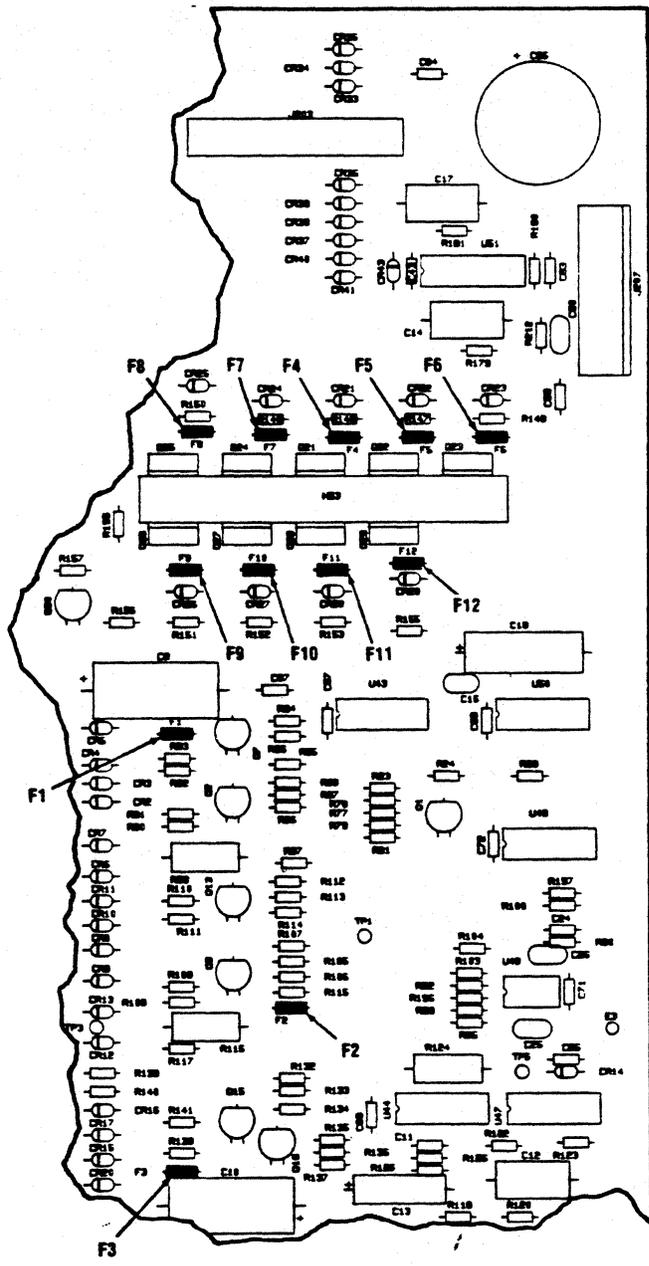

Figure 5-19. REMOVAL/REPLACEMENT PICO FUSE
The pico fuses, item 1 of Figure 5-19, are located on the Print Controller pcb and are removed using needle nose pliers. To remove the pico fuses, refer to Figure 5-19 and perform the following steps:
2. NOTE: Refer to Figure 5-19 for the locations (F1 through F12) of the pico fuses and to Appendix D for the pico fuse color coding information.